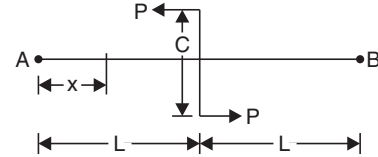

FIGURE 8.32
23. A beam AB is hinge-supported at its ends and is loaded by a couple $P \times C$ as shown in Fig. 8.32. The magnitude of shearing force at a section x of the beam is